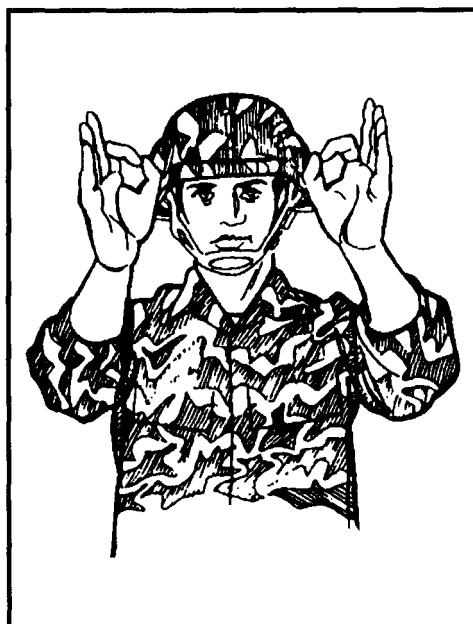

Figure 5-5. CHECK STATIC LINES.
(1) This is a plural command since there are several static lines attached to the anchor line cable. It begins at eye level, with the thumb and index finger of each hand forming an "O."
(2) The JM extends and joins his remaining fingers with the palms facing in. As he gives the oral command, he extends his arms to the front until the elbows are nearly locked, then returns to the starting position.
(3) He repeats the arm-and-hand signal at least three times, ensuring the knife edge of his hands are toward the parachutists and the palms face each other (Figure 5-5).